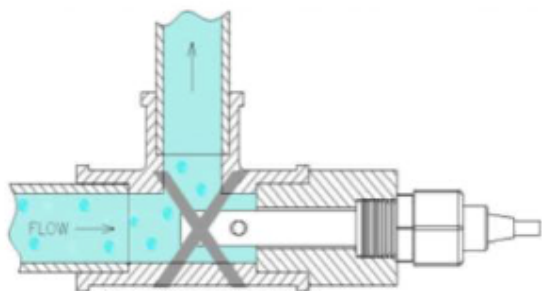
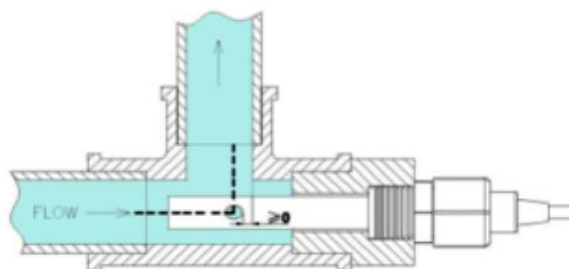

Figure 1A Wrong installation
Figure 1B Correct installation
- a. In figure 1A, electrode joint is too long, into the part too short, which is easy to form the die cavity, cause to measurement error, must install the electrode according to the Figure 1B (Face to flow direction and go deep into the flow.)